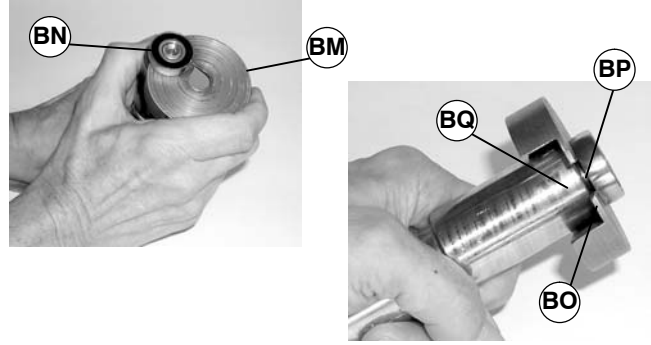

Figure 35
- Place bearing removal tool (BM of Figure 35) (part # 456063) below bearing (BN) with lip (BO) located in gap (BP) between bearing and spindle hub (BQ) as shown.